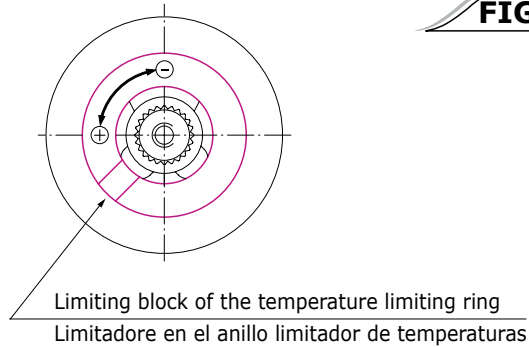

FIG. 4b
- Remove the spline adapter (6) which is attached to the temperature scale dial (4) with two short screws (7), then remove the screw that attaches the dial (5) and take out the dial (4).
- Remove the temperature limiting ring (2) from the stem and rotate the ring counterclockwise to set the higher temperature setting and clockwise to decrease the setting - see fig. 4b.
- Put back the temperature limiting ring (2) back onto the stem.